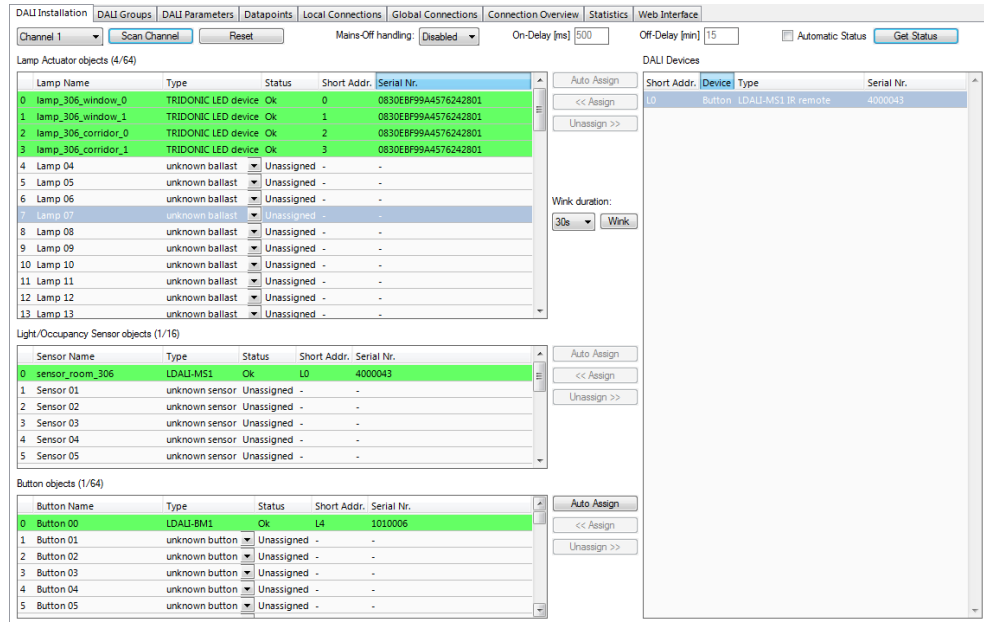

Figure 83: LINX Configurator software, After Configuration Download.
- After the download is complete, go back to the DALI Installation tab and press the **Get Status** button. Now the assigned DALI devices are displayed on a green background (see Figure 83). The green background colour indicates that the communication with the device is OK. If there is a communication error, the device will be displayed with a red background colour.